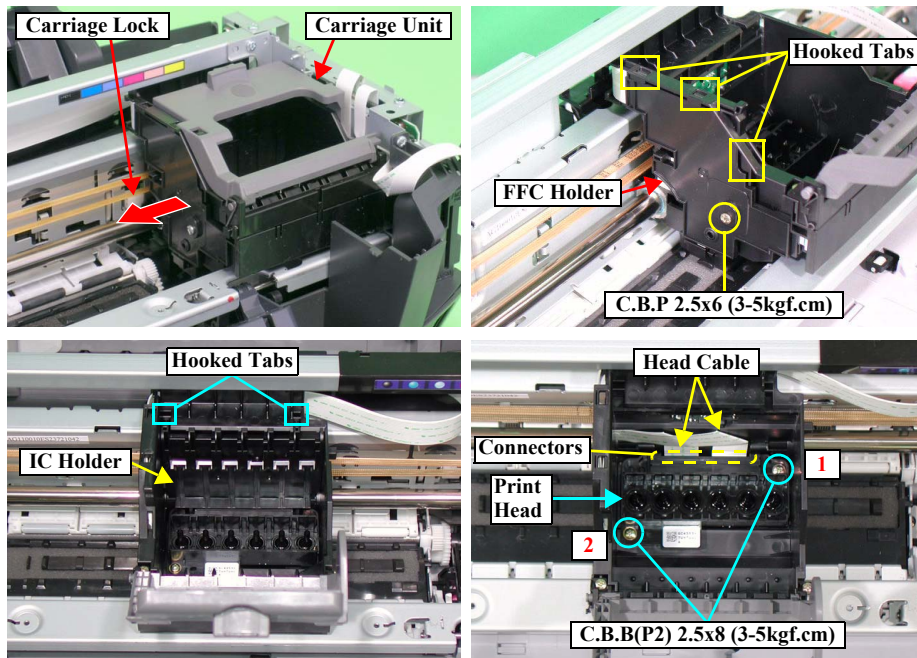

Figure 2-51. Removing the Print Head
- Tighten the screws to secure the Print Head in the order shown in Figure 2-51.